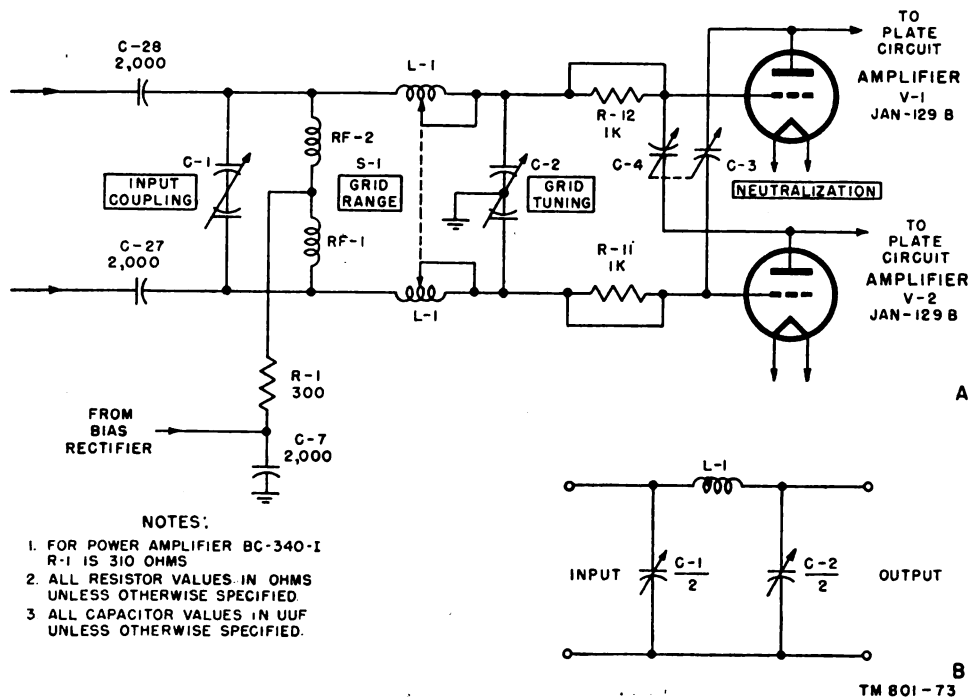

Figure 47. Power Amplifier BC-340-(*) (except model BC-340), functional diagram of grid (input) neutralization circuits.
47. Grid (Input) Circuit (fig. 47)
a. The output of the exciter is fed through capacitors C-27 and C-28, which block the bias voltage from the input transmission lines, to the grid circuit. The grid circuit is composed of two pi networks in push-pull. Each pi network is composed of L-1, one-half of C-1, and one-half of C-2 (B, fig. 47). The purpose of such a network is for a nonresonant line characteristic impedance match. It is used to transform the resistive load of the input transmission line to the grid input impedance. C-1, L-1, and C-2 are made variable to enable maintaining the proper impedance relationship at different operating frequencies.
49. Neutralization (fig. 47)